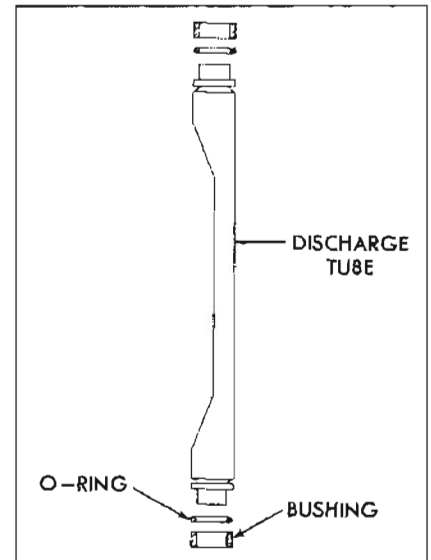

Figure 11-35—Service Replacement Discharge Tube
9. Discharge Tube—The discharge tube is used to connect the discharge cavity in the front head with the discharge port in the rear head. High pressure vapor discharge is channeled via the tube to discharge port. A slightly modified discharge tube is provided to be used as a service replacement tube (see Figure 11-35). The service replacement tube has a reduced end and a built up shoulder to accommodate an "O" ring and bushing. These added parts achieve the necessary sealing of the high pressure vapor within the compressor.